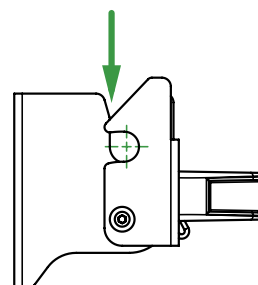

FIGURE 1
- Bring the rear bar of the chair closer to the anchoring opening of the closure that is located in the upper part of it (see figure 1).